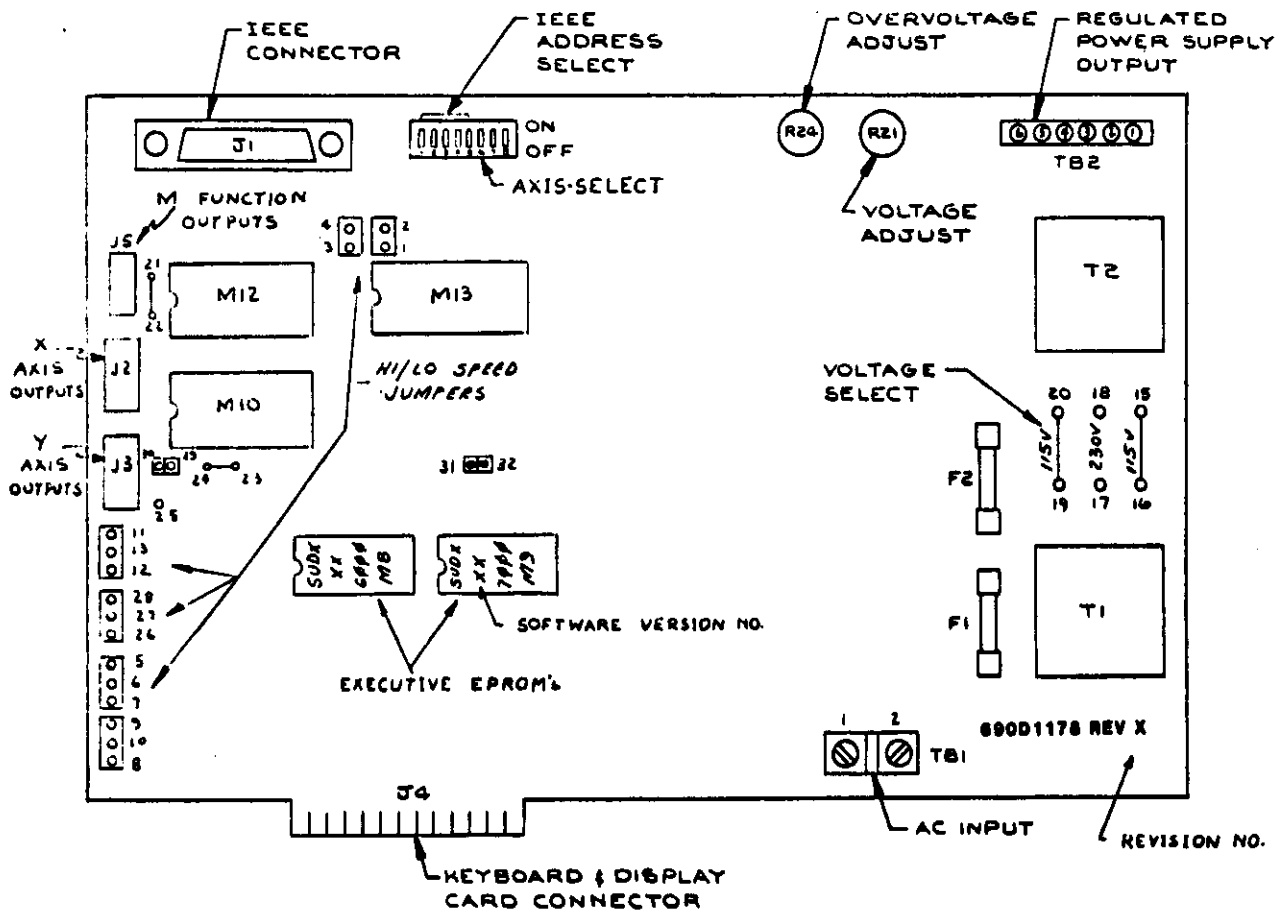

Figure 2.1
* The revision number and software version number are indicated as shown in Figure 2.1.
This section describes all power and signal inputs and outputs, jumpers, and switch settings on the Unidex II microprocessor board (refer to Figure 2.1). While most settings will be configured at the factory, it is important to understand the function of all jumpers and connectors should any problems arise.
The regulated voltages from the Unidex II power supplies are made available to TB2 (refer to Figure 2.1). Tables 2.6.1 and 2.6.2 illustrate the voltages and currents available from DC and lo speed stepper motor systems respectively.
There are four output lines and one input line dedicated to the M Function operations. Figure 2.1 shows the placement of the M Function connector (J5) on the microprocessor board and Table 2.8.1 shows the correspondence between pin numbers and signals. These lines exit the board directly from a Peripheral Interface Adapter (PIA) and are capable of driving one standard TTL load. Care should be exercised when using these lines since they are unbuffered.
Connectors J2 and J3 are the axis outputs for the X axis and Y axis respectively (refer to Figure 2.1). The functions signal of the lines are identical for both axes and are shown in Table 2.9.1 below.
Selection of Unidex II's IEEE-488 device address is accomplished by using switches 1 through 5 of SW1 (refer to Figure 2.1). Appendix A lists all possible address combinations.